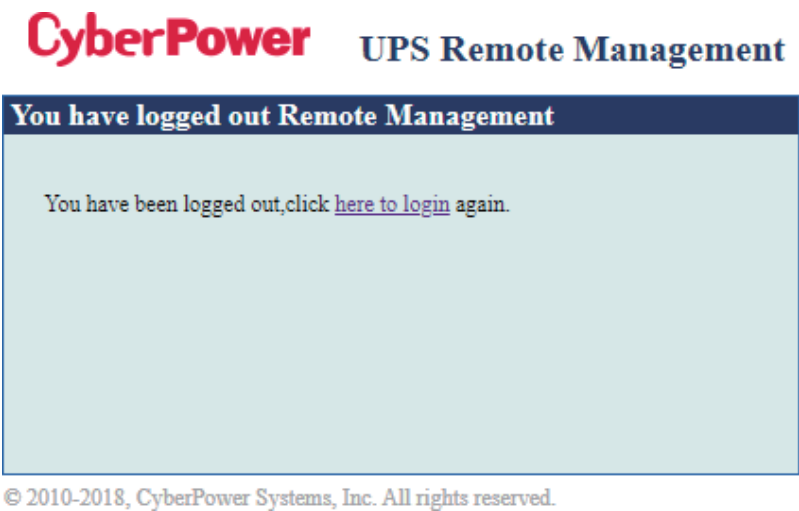

Figure 9. Firmware upgrade success in the main window.
3. If the firmware upgrade is implemented, you will see the Result in the main window, as shown in Figure 9.